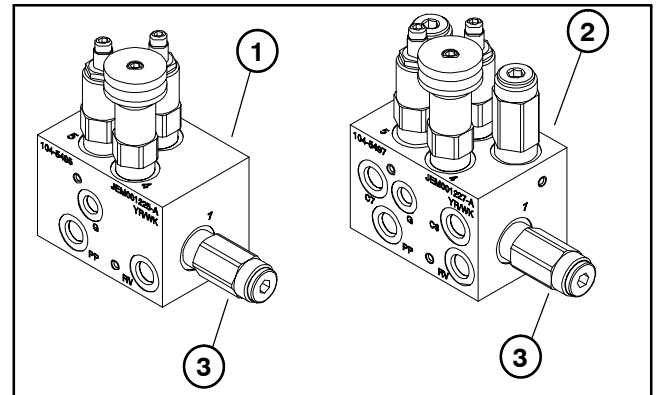

Figure 40
7. If specification is not met, adjust or clean relief valve located on the side of power down and traction assist control manifold under operator seat (Fig. 40).